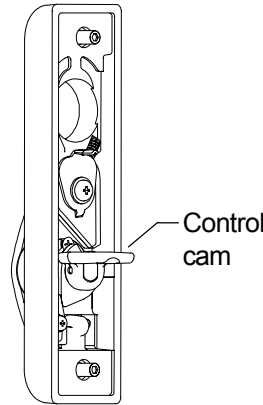

Figure 1. Control cam position.
5. Make sure control cam is in position shown in Figure 1.